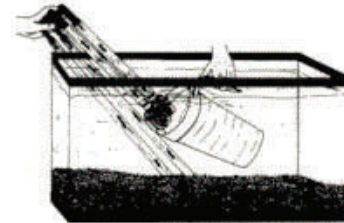

FIG. 15
8. Turn your D-1 Diatom Filter back on. Submerge a plastic Container such as the one in Fig. 15, into the aquarium And put the intake and exhaust tubes into the container.
- (A) After you have assembled your Diatom Filter you may charge it in the following manner. With both the intake and exhaust hoses in the aquarium and having the Diatom Filter at least half full of water turn the Diatom Filter upside down, start the motor for a few seconds or until you can see that the intake hose had filled with water. Return the Diatom filter to the upright position and turn the motor off. This will force the unit to start a siphon. Hoses must run upward toward the aquarium.
- (B) Submerge a plastic container such as the one in Fig. 15, into the aquarium and put the intake and exhaust tubes into the container.